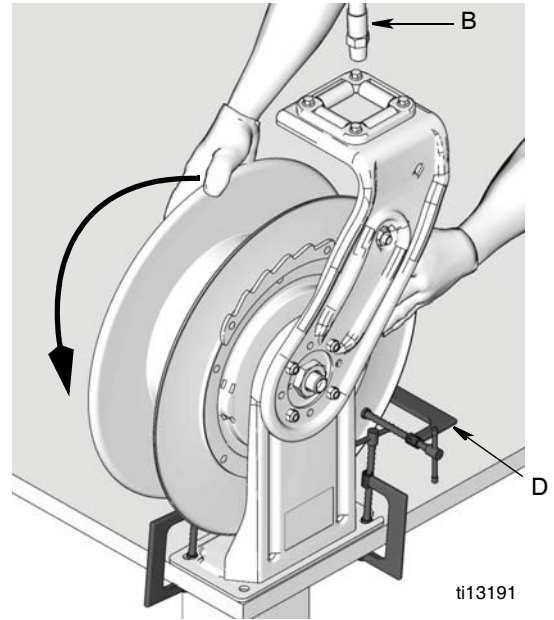

FIG. 11
2. Before you install hose, attach a C-Clamp (D) to reel flange to help prevent the reel from unintentionally becoming unlatched and spinning freely. (FIG. 11).
4. Wearing heavy gloves, firmly grab the outside edge of the reel flange with both hands. Wind the reel the proper number of turns (See reference table following Step 1), rotating it in the direction shown in FIG. 11.
8. Attach hose end (B) to hose reel swivel (A). Then carefully remove C-Clamp (D) (FIG. 11).